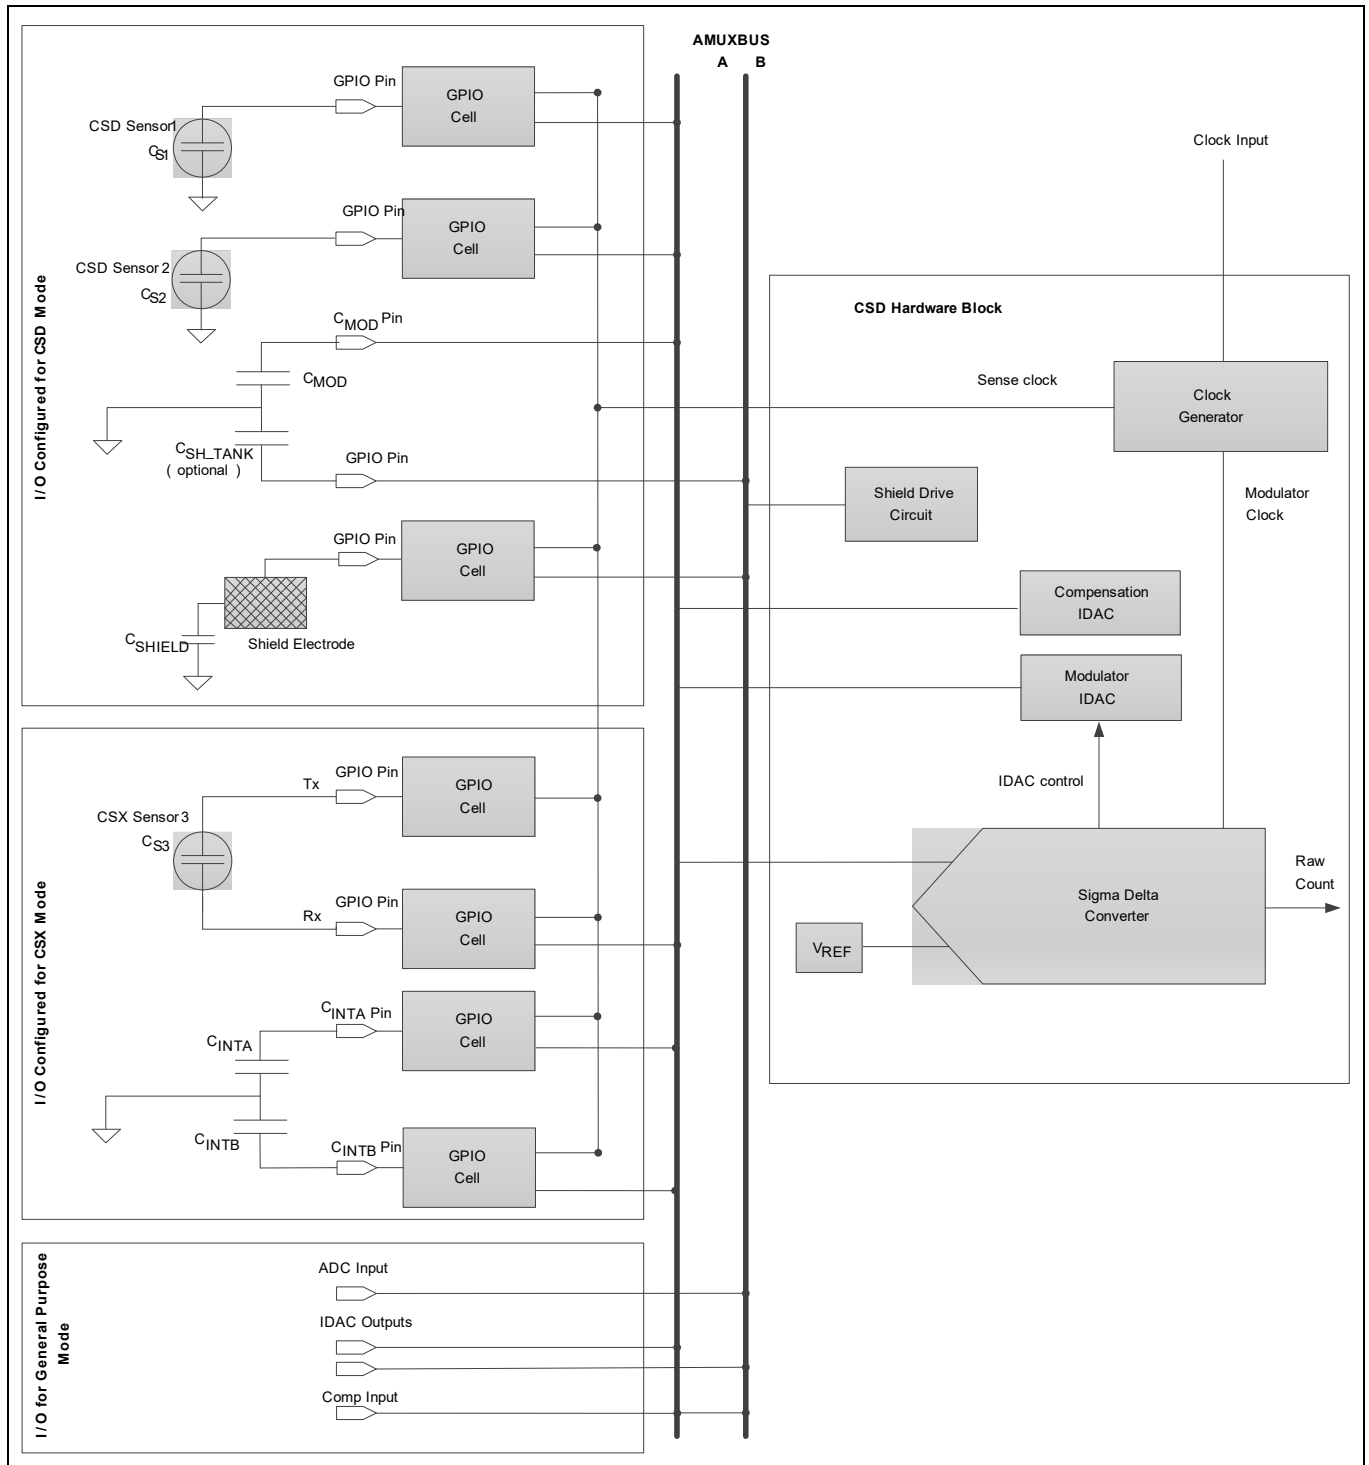

Figure 7 CAPSENSE™ hardware subsystem
**Figure 7** shows the high-level hardware overview of the CAPSENSE™ subsystem, which includes a delta sigma converter, internal clock dividers, a shield driver, and two programmable current sources.
The two programmable current sources (IDACs) in general-purpose mode can be connected to AMUXBUS A or B. They can therefore connect to any GPIO pin. The comparator resides in the delta-sigma converter. The comparator inverting input can be connected to the reference. Both comparator inputs can be connected to any GPIO using AMUXBUS B; see **Figure 7**. The reference has a direct connection to a dedicated GPIO; see **Table 9**.